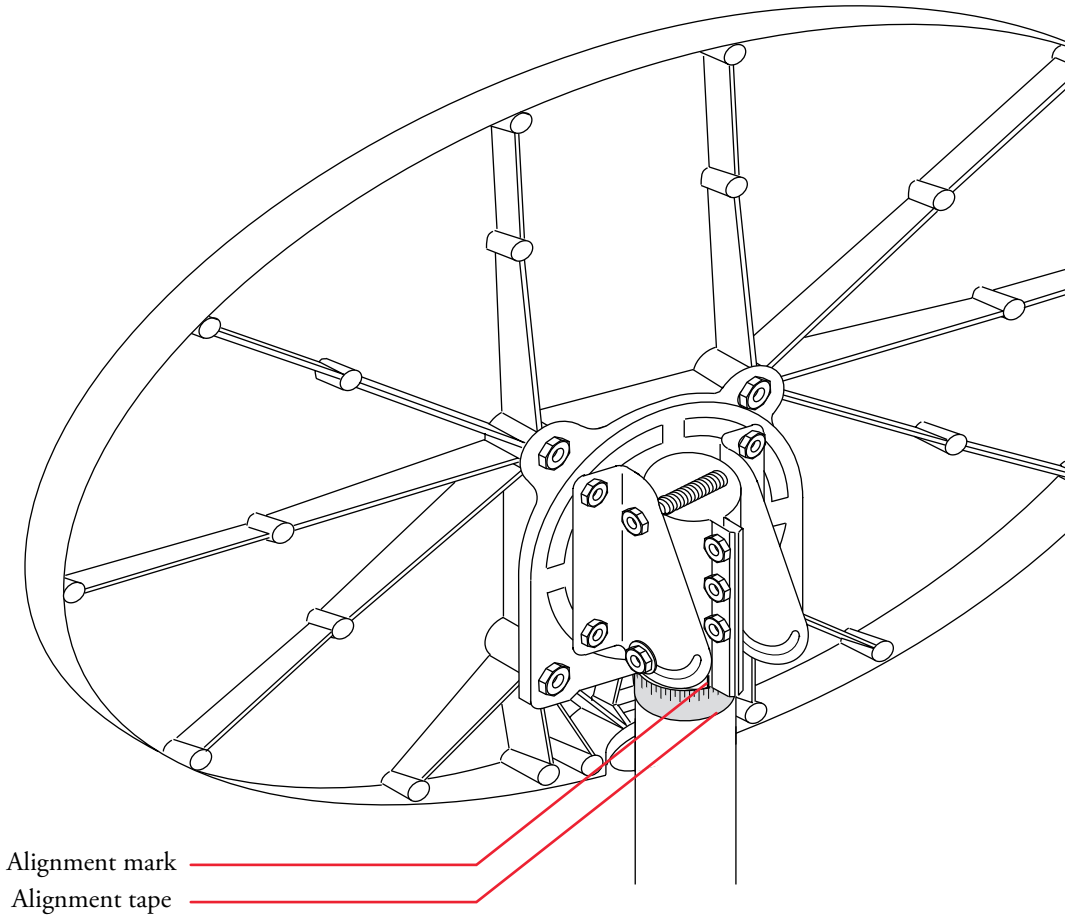
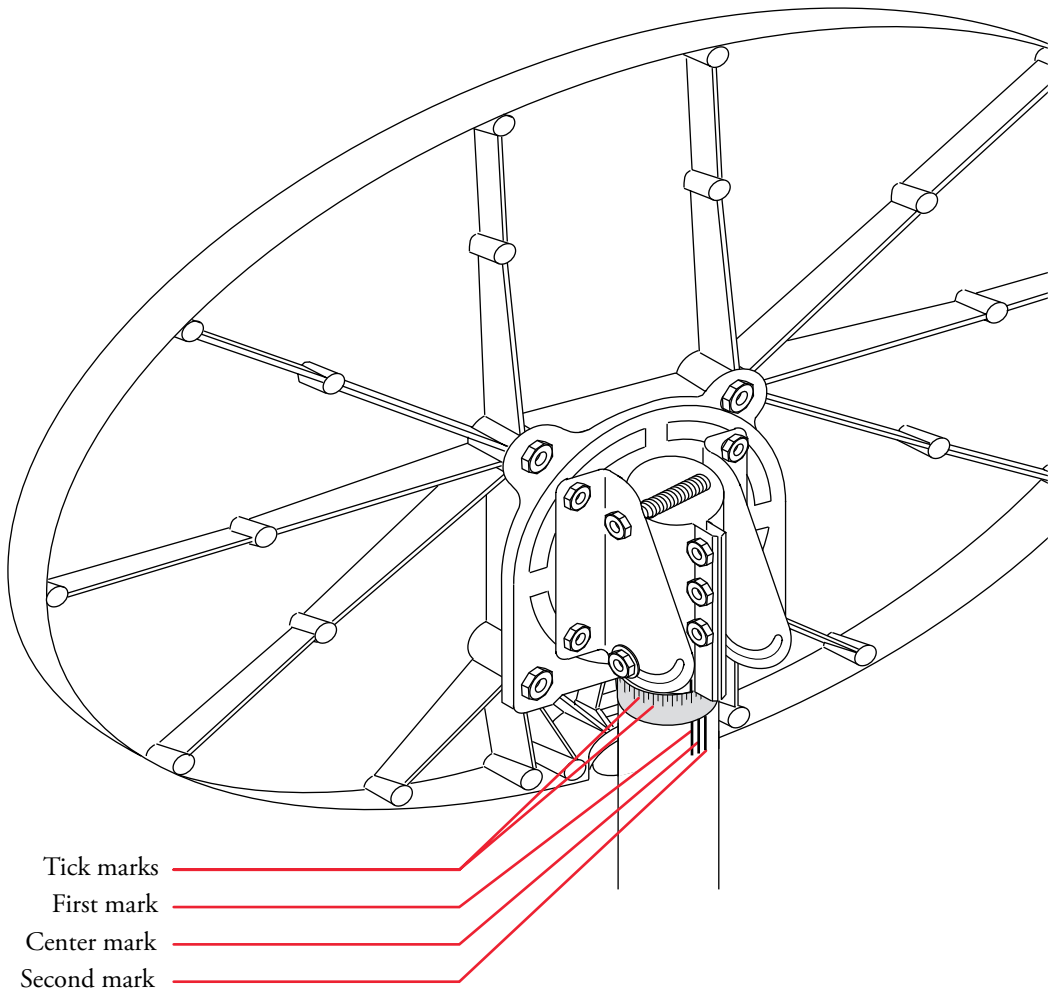

Figure 5-5. Alignment mark and alignment tape locations
Figure 5-6. Marking the azimuth locations on the mast
3. Rotate the antenna in azimuth until the antenna is pointed at the calculated magnetic azimuth bearing (in our example, this value would be 220 degrees). Use a pencil to mark the location of alignment mark (see figure 5-5) onto the mast. This mark will be referred to as the *center mark* (see figure 5-6).
1. To begin the antenna alignment procedure, place a mark on the mast that is two tick marks to the left of the center mark. That mark is the *first mark* (see figure 5-6). Then place another mark that is two tick marks to the right of the center mark. That mark is the *second mark*.